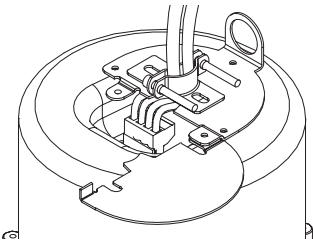

Figure 14: Secure cable through fitting
1. If plenum cable is used, slide the wiring through the strain relief fitting on the terminal cover plate (Figure 14). Hold the strain relief fittings tight around the cable. Tighten the strain relief screws first, then the horizontal screw. In the cases of insulated speaker wire and plenum cable, it is often